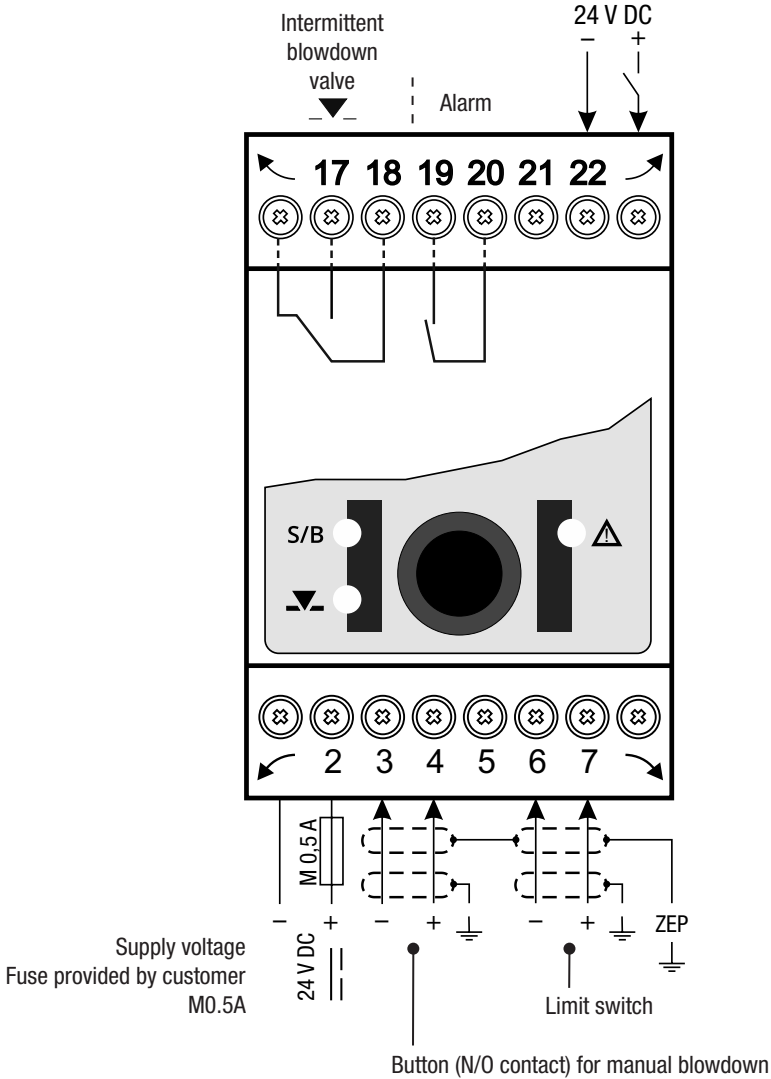

Fig. 4
- Connect the blowdown timer and all associated components as shown in the wiring diagram in Fig. 4 of this Manual.
- Connect the outputs as shown in the wiring diagram in Fig. 4. The alarm relay is closed in the event of an error. In the wiring diagram, there is no electrical supply.